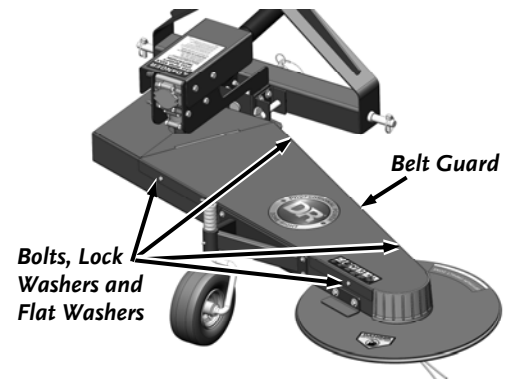

Figure 36
1. Remove the four Bolts, Lock Washers and Flat Washers from the Belt Guard using a 7/16" Wrench (**Figure 36**).
7. Position the Belt Guard and secure the Guard with the four Bolts, Lock Washers and Flat Washers using a 7/16" Wrench (**Figure 36**).